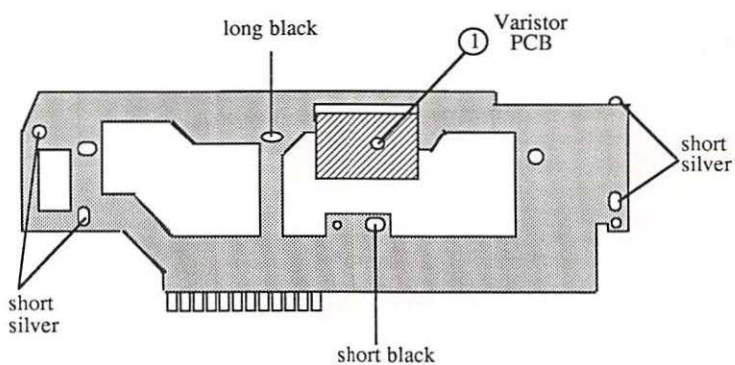

FIGURE 2-15
- a) Remove the three connectors from the Varistor PCB (see Figure 2-15, #1 and Photo 1, #10).
- b) Mark the type of screw at each location on the frame with a pencil (e.g. "short silver," "long black"). Then remove screws and lift off the frame-piece. (See Figure 2-15).